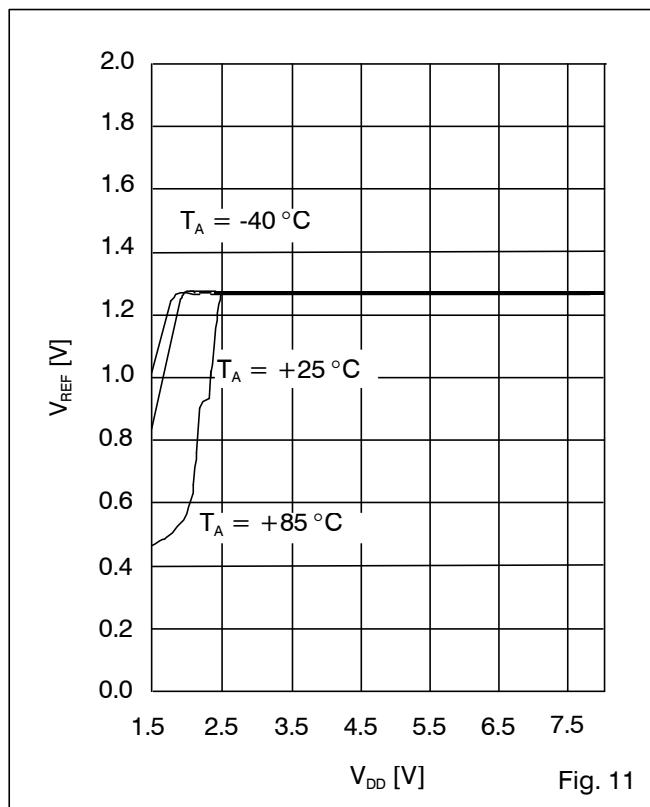
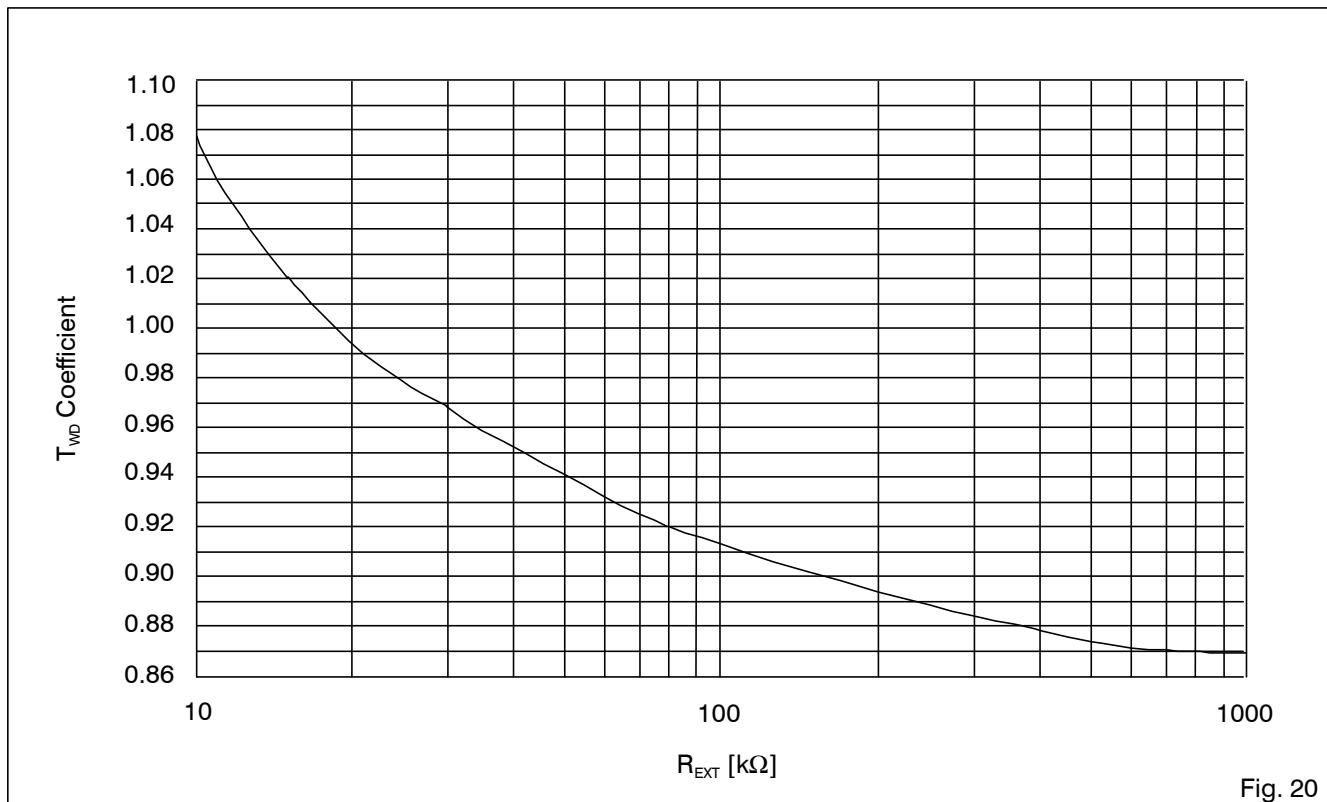
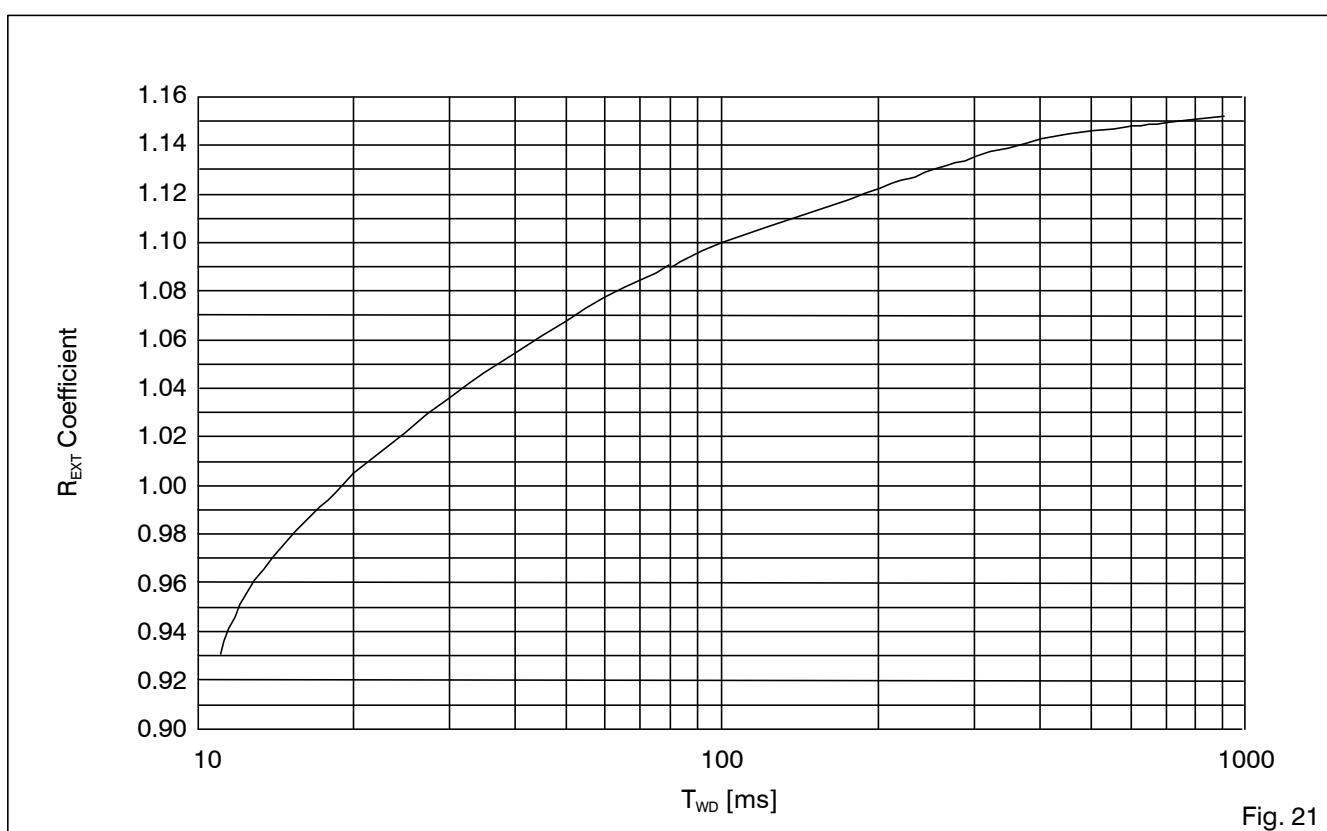

Fig. 11
Fig. 20
Fig. 21
Related to curves (Fig. 11 to Fig. 21), especially Fig. 20 and Fig. 21, the relation between T_{WD} and R_{EXT} could easily be defined. Let us take an example describing the variations due to production and temperature:
2. Related to Fig. 21, the coefficient (T_{WD} to R_{EXT}) is 1.025 where R_{EXT} is in k Ω and T_{WD} in ms.